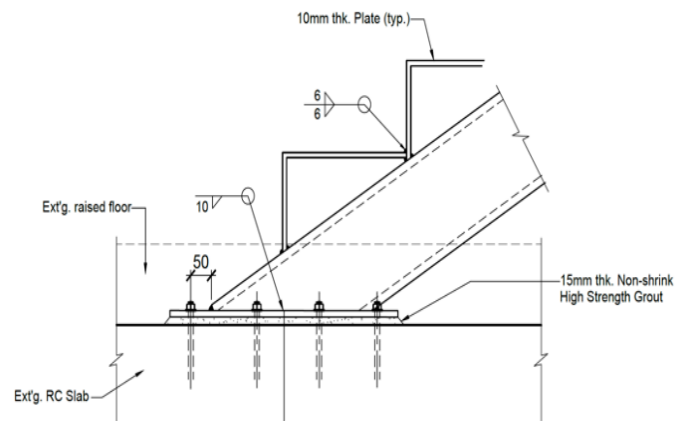
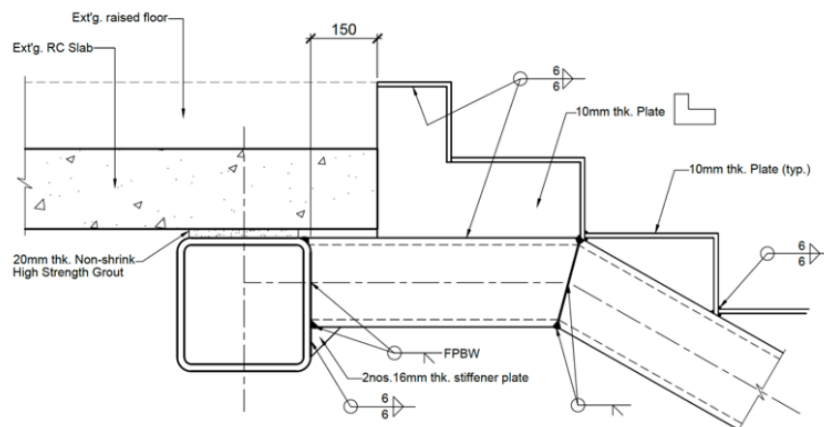

Figure Q3-5 Detail 'A'
Figure Q3-6 Detail 'B'
- (a) The four support points of the staircase are designed as fixed connections as shown in Figure Q3-5 and Figure Q3-6.